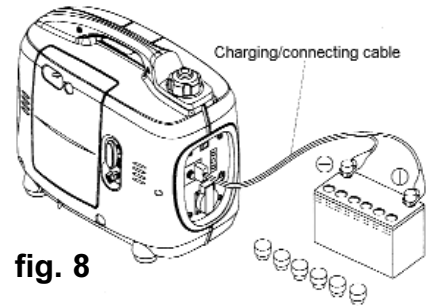

fig. 8
3.5.2 Connect the positive battery terminal to the positive charging cord. Refer to fig. 8.